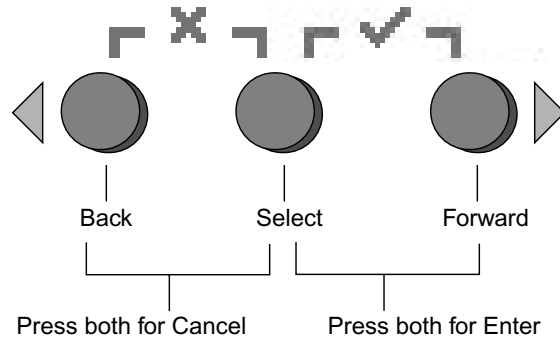

FIGURE 2-1 Operator Panel Buttons
1. **Press any operator panel button on the server front panel (see FIGURE 2-1).**
1. Press any operator panel button on the server front panel (see FIGURE 2-1).